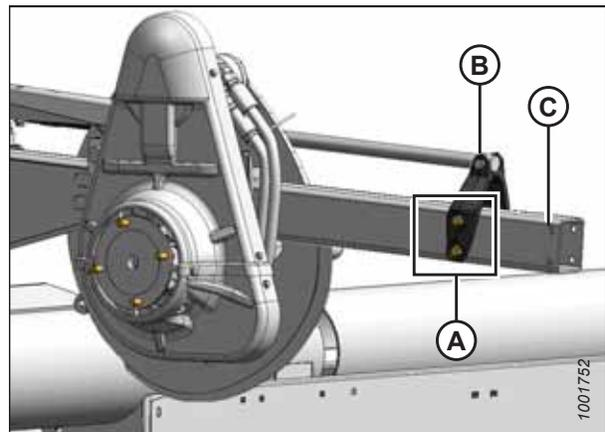

Figure 3.39: Rearward Position
- Rearward position, refer to Figure 3.39, page 64
5. Reinstall four bolts (A) to secure bracket (B) to reel arm at new position.